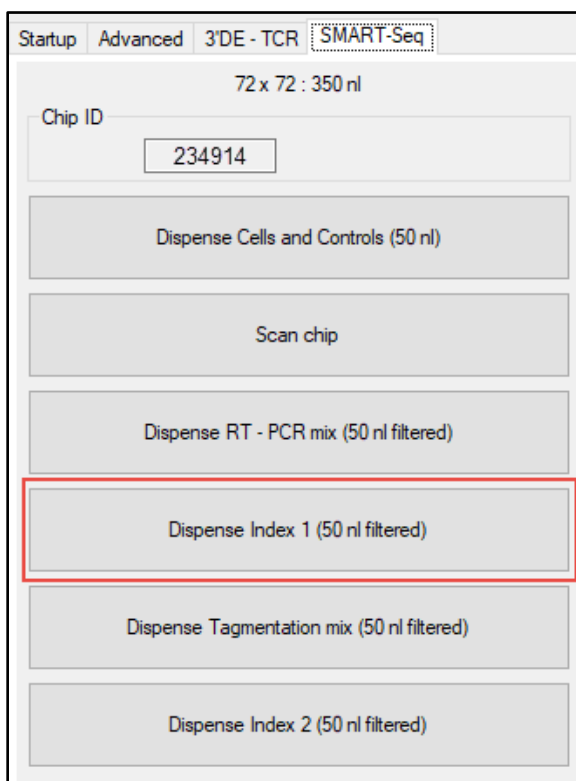

Figure 16. Using CELLSTUDIO software to dispense Index 1.
- At step 6, click the [Dispense Index 1] button (Figure 16).